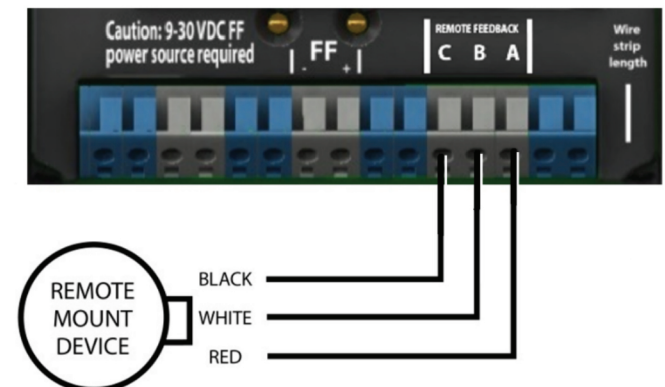

Figure 40: Remote Mount Circuit (FF)
Use the remote mount option where excessive vibration or environmental factors prevent the placement of a positioner directly on the valve. The remote mount is an integrated part of the Logix 3840 circuitry. Wire the remote mount with Black to terminal C, White to terminal B, and Red to terminal A. See Figure 40: Remote Mount Circuit (FF) for remote mount connections.